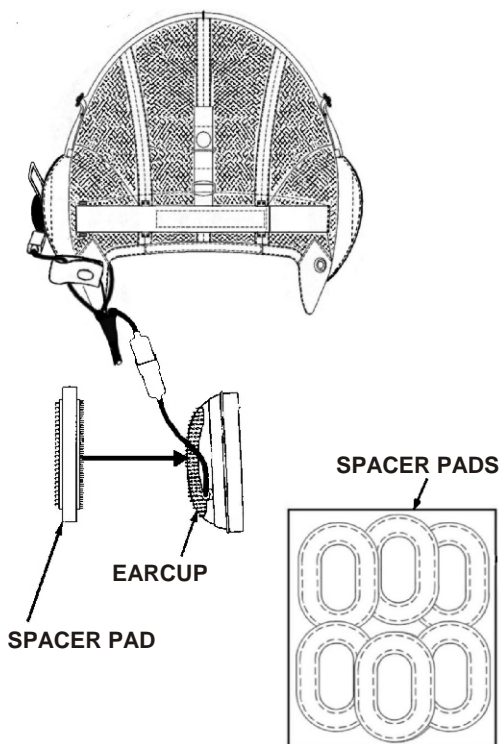

Figure 5. Earcup and Spacer Pads
5. Check the earseal compression against the ears. For optimum sound attenuation, the earseals should be evenly compressed as much as possible without causing discomfort. If needed, remove the inner helmet, remove the earcups from the inner helmet pockets, and attach earcup spacer pads (**Figure 5**) to the backs of the earcups. Reinstall the earcups inside the inner helmet pockets. Don the inner helmet and recheck the earseal compression. Continue in this manner until earseal compression is satisfactory.